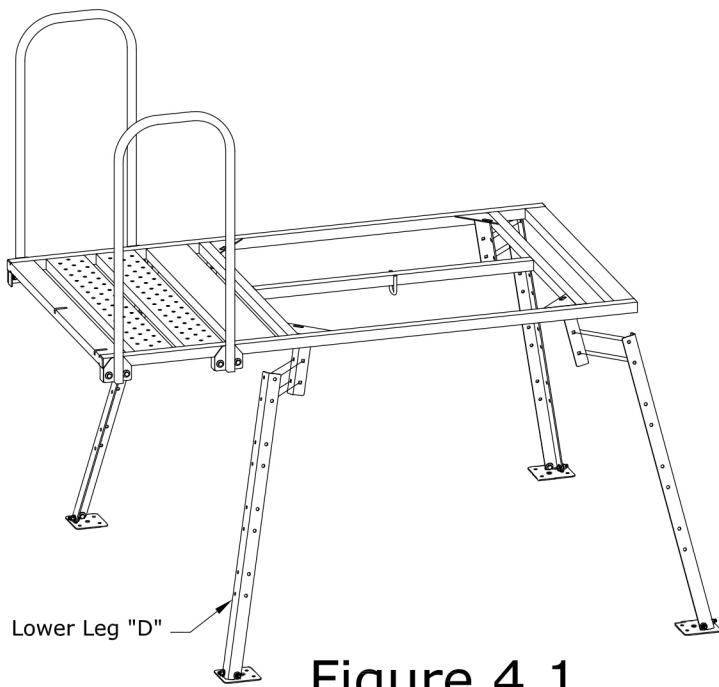
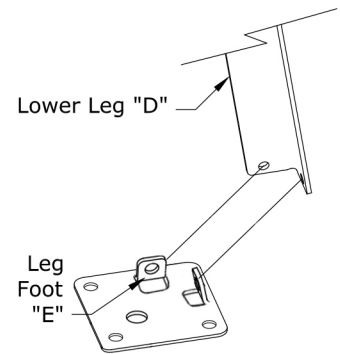

Figure 4.1
Figure 4.2
STEP 4: Locate (4) Leg sections "D" and (4) Leg Feet "E". Attach feet to legs as shown in Figure 4.2 with the typical hardware connection in (8) places. Install Leg sections to the platform using the typical hardware connection in (16) places as shown in Figure 4.1.